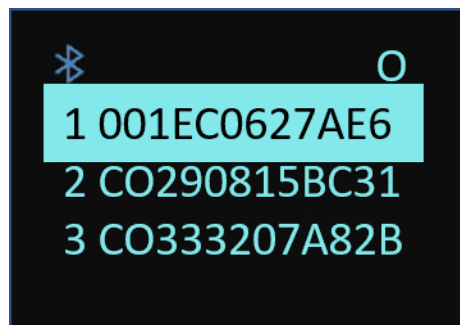

Figure 2. Mac address list of the discovered devices
If the BTA-100 has never been connected to any device, it will scan for any Pyxis sensors or probes that are running in the beacon mode. The O icon is displayed in the upper-right corner to indicate that the observer mode is activated. The Mac address list of discovered and connectable devices will be displayed on the screen after 5 seconds (figure 2). The last four digits of the Bluetooth Mac address is printed on the device label and laser marked on the body of the device.
- The BTA-100 will search Pyxis Bluetooth devices that are in the beacon mode and display the Mac addresses of the discovered devices (figure 2).